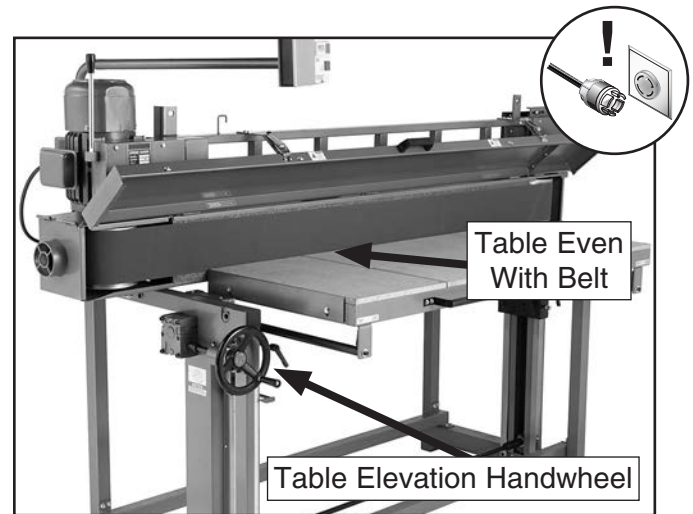

Figure 45. Elevating table.
10. Pull the table all the way forward, lock it in place with the table travel locks, then use the table elevation handwheel to raise the table until it is even with the belt (**Figure 45**).